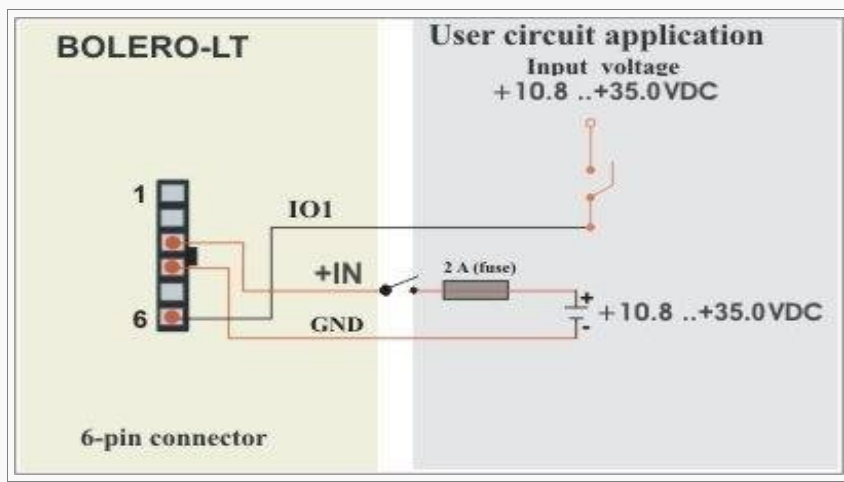

Figure 6: Connection example for digital input (IO1)
**Note:** *The SIM should not be removed, while the unit is powered on. The SIM must only be removed when the **BOLERO-LT** is shut down. To remove the SIM card, press the Eject button (see figure 6) then pull out the SIM card-holder.*